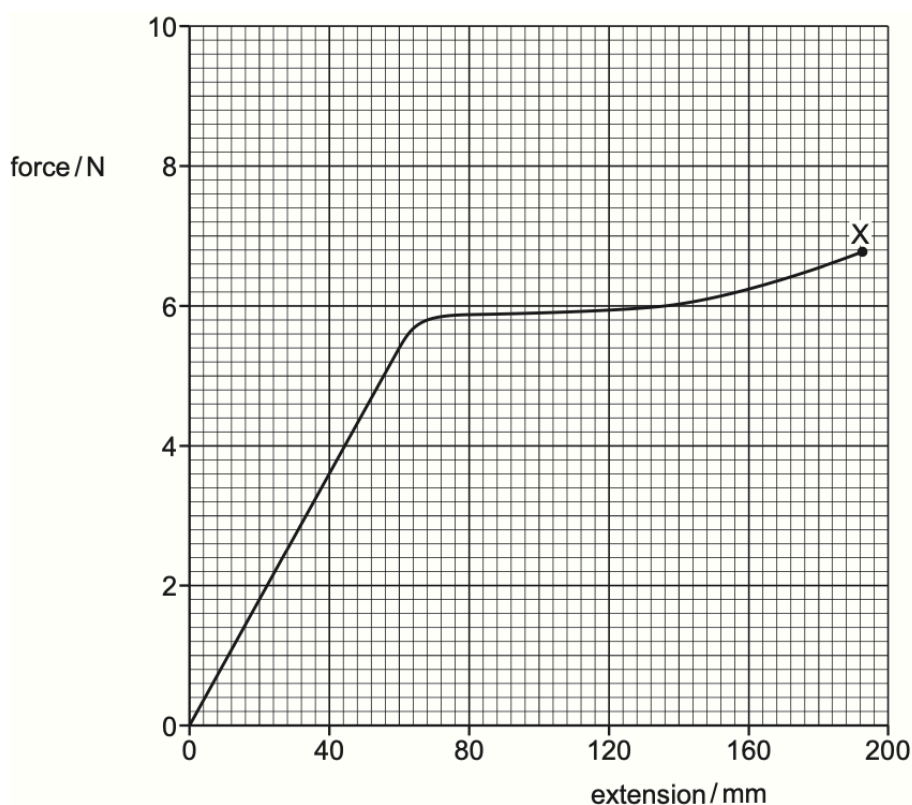

Fig. 3.1
(b) The variation of the applied force with the extension for a sample of a material is shown in Fig. 3.1.
- (i) On the line in Fig. 3.1, draw a cross (×) to show the limit of proportionality. Label this cross with the letter P. [1]
- (ii) On the line in Fig. 3.1, draw a cross (×) to show the elastic limit. Label this cross with the letter E. [1]